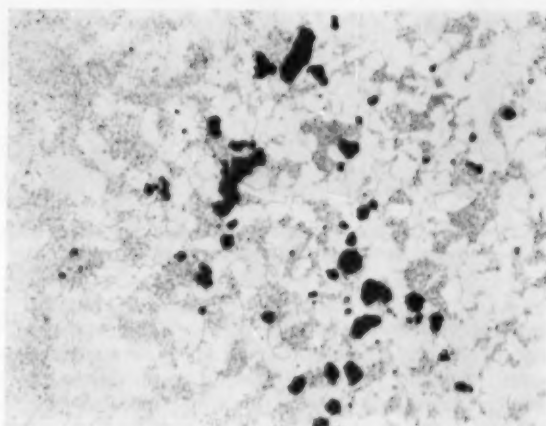

Fig. 2—Photomicrograph of the graphitized zone in the cracked valve material shown in Fig. 1. Heat-affected zone on left; base metal on right (500X)
**B**ECAUSE severe graphitization reduces considerably the ductility and toughness of the affected areas, periodic examination of valve and pipe joints in high-temperature piping is essential to prevent costly failures and contingent danger to life and property. For example, a recent routine examination of a main steam line of a power plant revealed a 1 in. deep crack around the circumference of a  $1\frac{3}{4}$  in. thick valve-to-pipe joint. This crack, illustrated in Fig. 1, is in the heat-affected zone of the valve, parallel to and approximately  $\frac{3}{32}$  in. away from the weld metal. Examination under the microscope established that this cracking occurred in a severely graphitized zone which is shown in Fig. 2. Further embrittlement and propagation of the crack might have resulted in a very serious failure in the main steam line. This valve has been replaced to remove this hazardous condition.